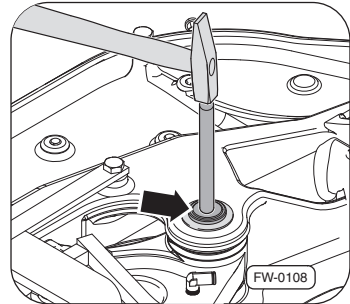
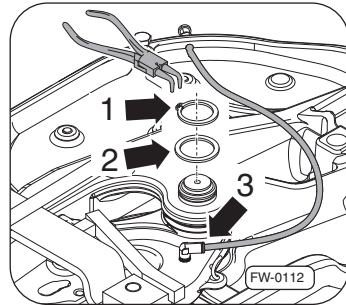

Fig. 32 · Dismantling the bolt
Fig. 35 · Secure bolt
6. Remove bolt Fig. 32, –arrow– from coupler jaw by punching through Page 35.
4. Insert the bolt Fig. 32, with support washer Fig. 35, –pos. 2– and secure circlip –pos. 1–.